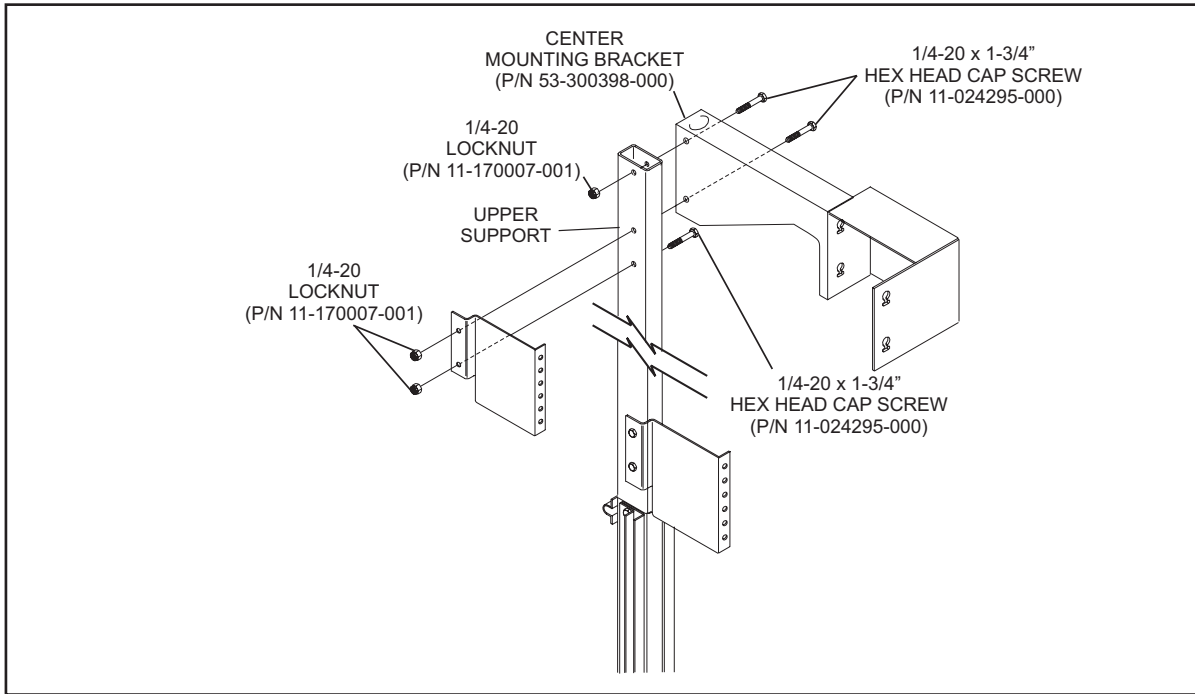

Figure 24
1. Install the intermediate support assembly “C” projection screen mounting bracket and upper graphic standoff. Refer to *Figure 24*.